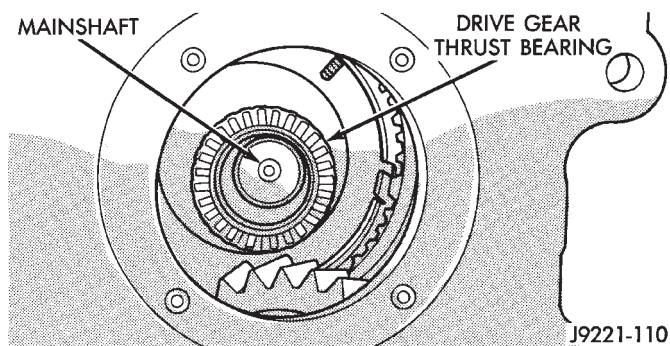

Fig. 122 Drive Gear Thrust Bearing Installation
(5) Install drive gear thrust bearing on mainshaft (Fig. 122). Use plenty of petroleum jelly to hold bearing in place.
(6) Check alignment and mesh of mainshaft gears. If gears are not aligned, roll case on side and realign shaft and gears in case.